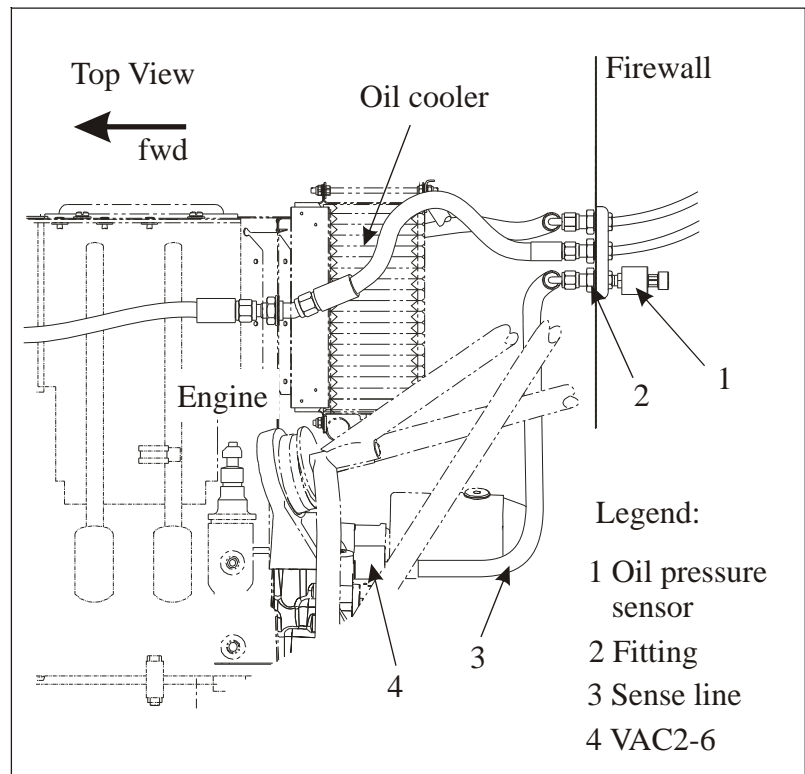

Figure 4 Oil Pressure Sensor & Wet Line
The oil pressure gauge is located in the rear instrument panel. The gauge receives its data electrically from a pressure sensor located on the aft side of the firewall (refer to figure 4). The pressure sensor (1) is connected to a fitting (2) on the cold side of the firewall. A sense (wet) line (3) connects the bulkhead fitting to the VAC2-6 (4) at the engine.
- 2 Disconnect the sense wet line at firewall bulkhead fitting and at engine fitting (refer to figure 4).